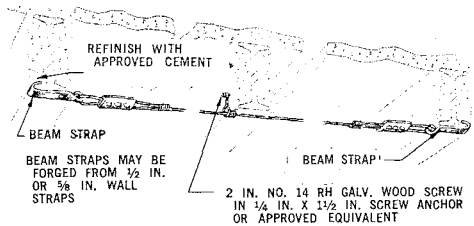

Fig. 7 — Strand on Beam Straps
13.01 Manufacturing buildings, warehouses, piers, etc, may require special means of attachment. Methods of attachment which have proven practicable in such cases are shown in Fig. 7, 8 and 9.